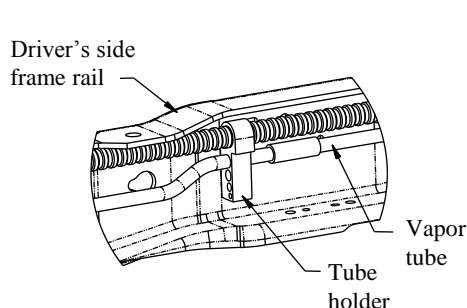
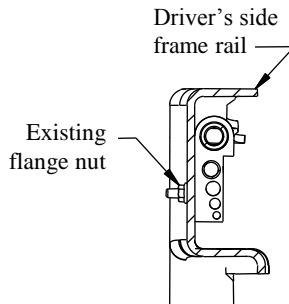
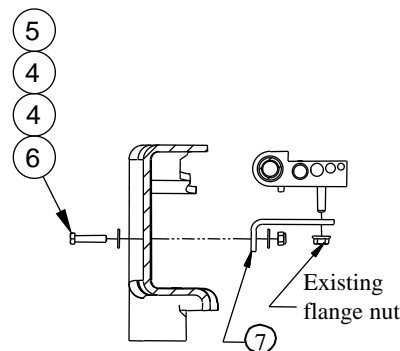

Figure 3a
Figure 3b
Figure 3c
2. **On 2005 to 2010 Gas Engine Vehicles Only.** The vapor tube running along the inside of the driver's side frame rail must be relocated prior to installing the driver's side bracket. See Figure 3a. Remove the flange nut from the outside of the frame and keep for later use. See Figure 3b. Rotate the tubes up and out of the way. Install the L-bracket (7) with 1/4" hardware (4)(5)(6), as shown in Figure 3c. Tighten the L-bracket (7) to the frame, but leave the tube holder loose to aid bracket installation.
14. **On 2005 to 2010 Gas Engine Vehicles Only.** Use the factory flange nut that was removed in Step 2 to tighten the tube holder onto the L-bracket (7) as shown in Figure 3c.
16. **On 2005 and to 2010 Gas Engine Vehicles Only.** Use the factory flange nut that was removed in Step 2 to tighten the tube holder onto the L-bracket as shown in Figure 3c.